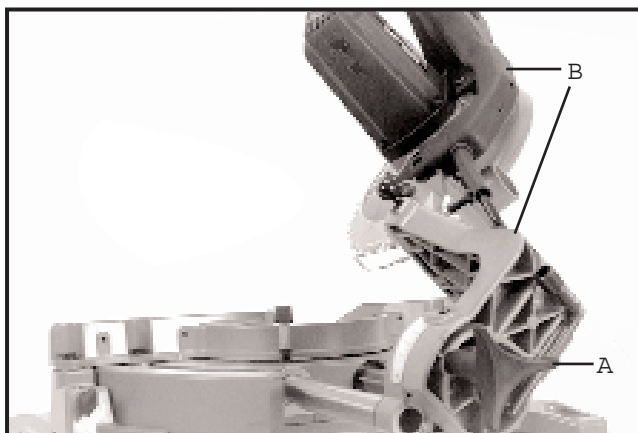

Fig. 25
1. The cuttinghead of your compound miter saw can be tilted to cut any bevel angle from a 90 degree straight cut-off to a 45 degree left bevel angle by loosening bevel lock handle (A) Fig. 25, tilting cuttinghead (B) to the desired angle, and tightening lock handle (A).